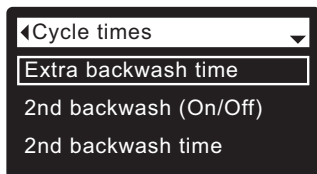

FIG. 74
5. Press the SELECT (O) button to display the Cycle times menu (See Figure 74).
9. Press the SELECT (O) button. The display will go back to the Cycle times menu (Figure 74).